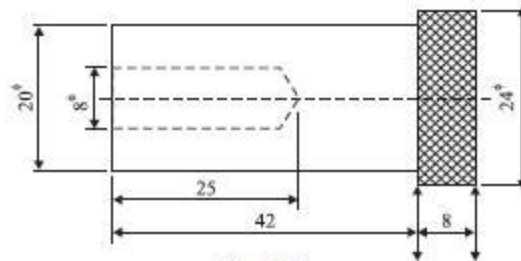

Fig. 5.24
3 A mild steel shaft, shown in Fig. 5.24 is to be turned from a 24 mm dia bar. (16)